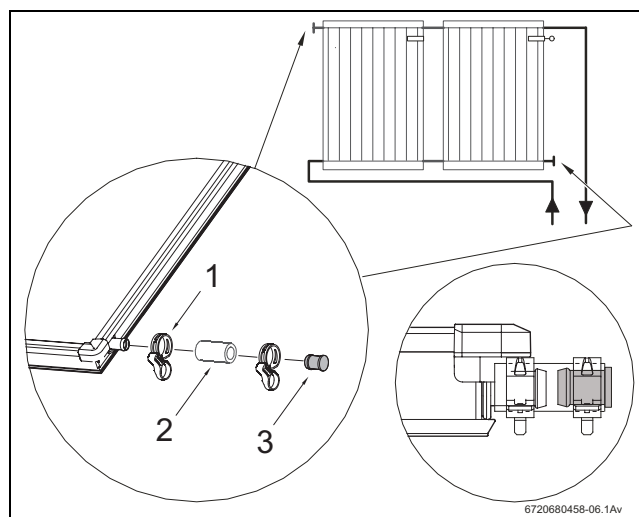

Fig. 37 Assemble the dummy plug and the hose clip
- Place the 55 mm solar hoses (Fig. 37, [2]) with the pre-assembled dummy plug over the two free connections of the collector array